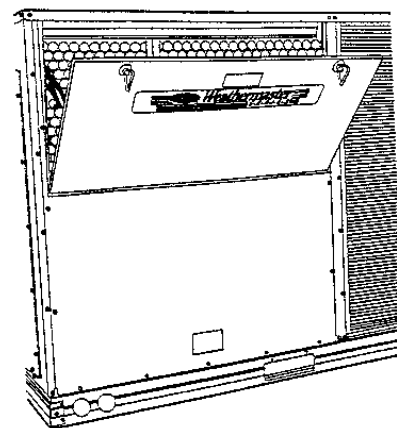

FIGURE 7 – Filter Hinged Access Panel
2. Slide filters (located in the hinged access panel) out of unit. Replace if dirty. *See Figure 7.*